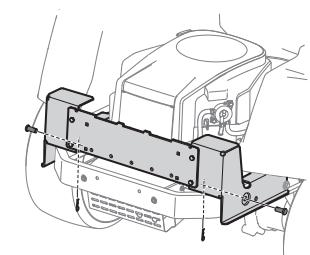

Figure 3
- Secure the mounting bracket assembly to the tractor using two clevis pins (711-0310) and cotter pins (714-04023) from hardware pack 689-02200. See Figure 3.